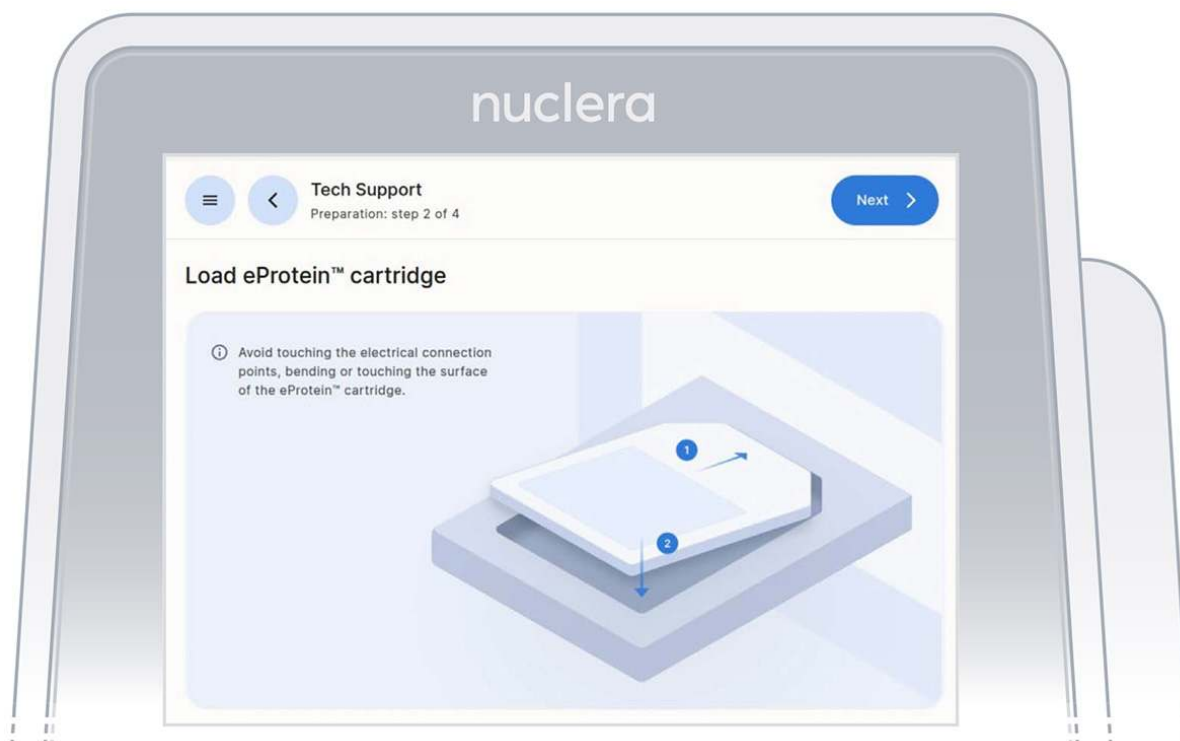

Figure 12: Loading of the cartridge on the eProtein Discovery instrument
7. Unpack and load a cartridge as shown on the screen of the eProtein Discovery instrument, place the cover on the cartridge, avoid touching the electrical connectors, and press the **[Next]** button (Figure 12).